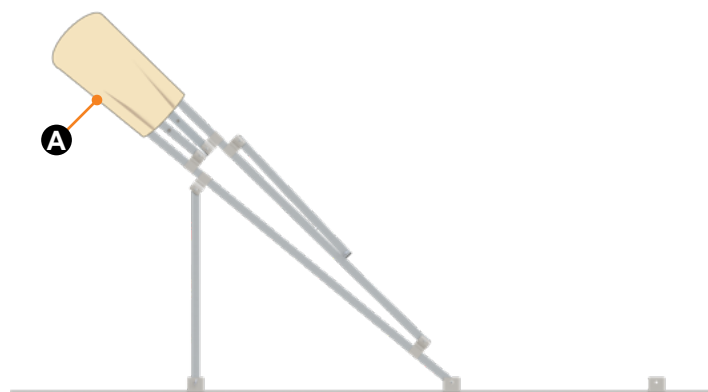

Fig.43
1. Make sure the bimini top is in the radar position and the protective boot is installed (Fig.43).